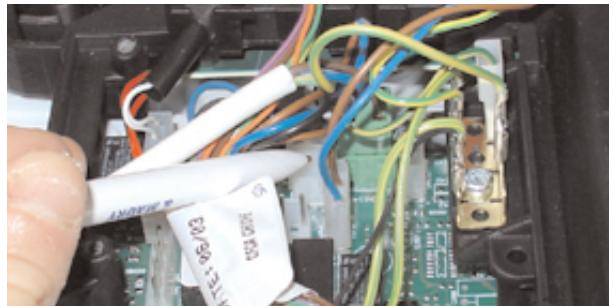

Fig. 87
3. Remove the pump plug from the control board and earth plug from earth socket (see Fig. 87);